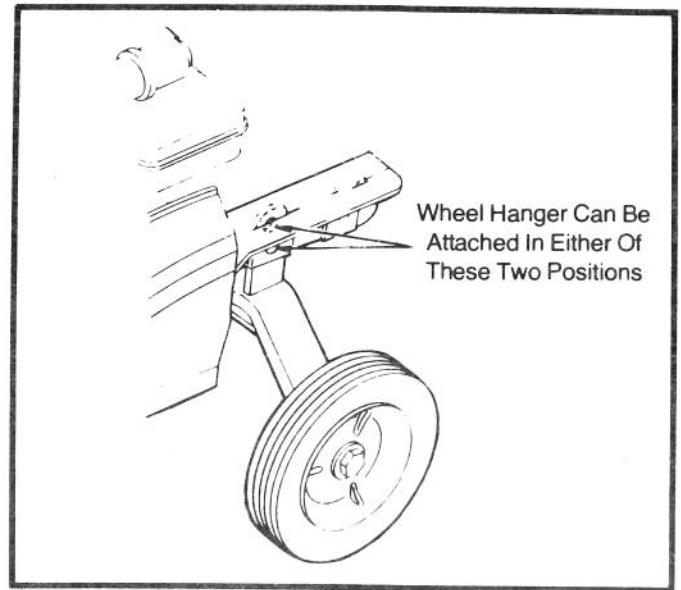

FIGURE 16
To provide a comfortable handle bar height at various tilling depths, the wheel hanger can be adjusted in either of two (2) positions, Fig. 16.